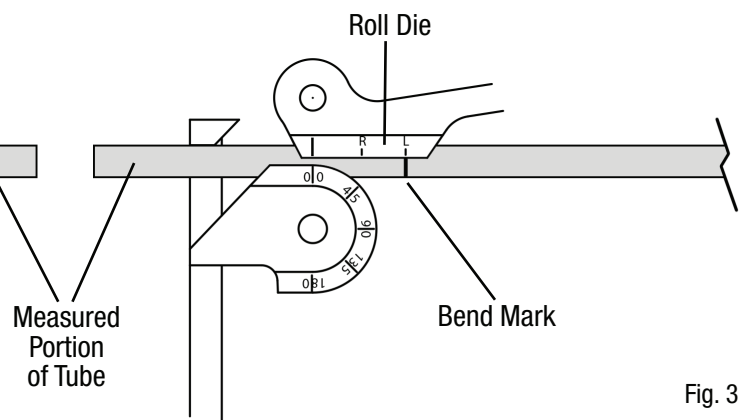

Fig. 3
- If the measured portion of the tube is to the left of the roll die, slide the tube so the bend mark lines up with the "L" (Fig. 3).